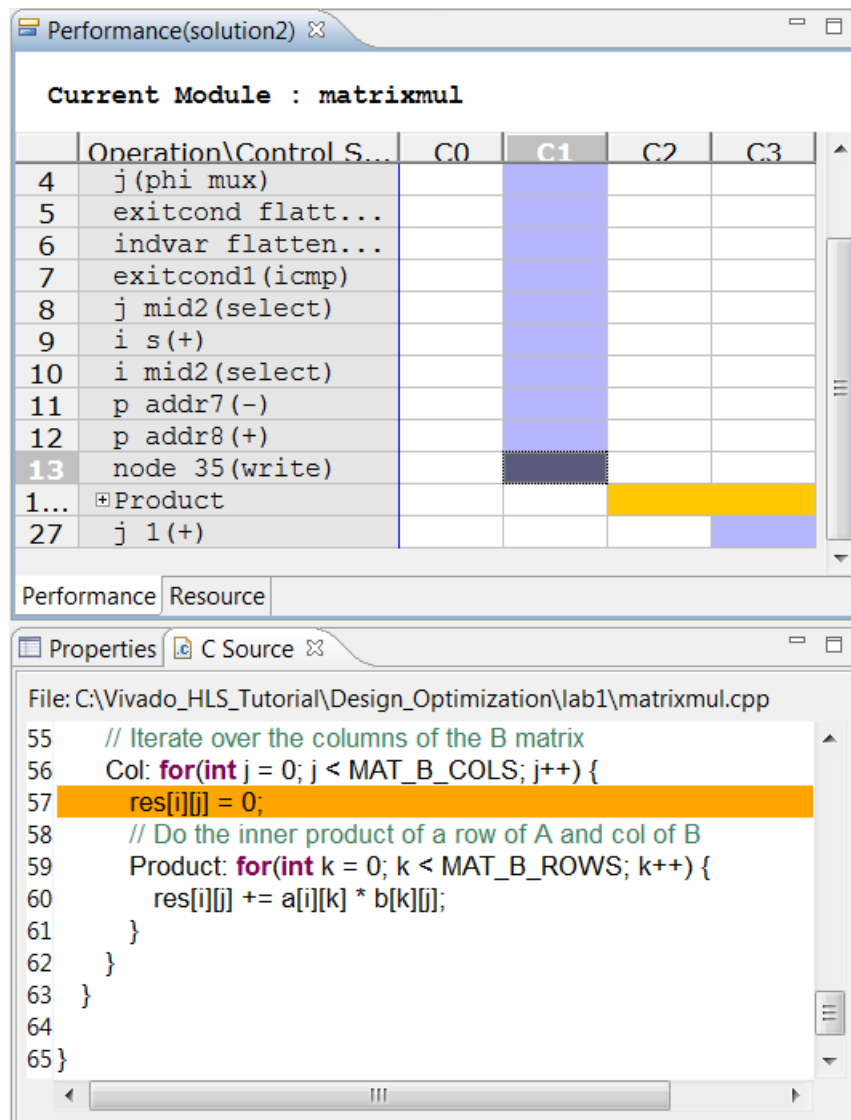

Figure 7-8: Matrixmul Initial Performance View
- Right-click and select **Goto Source** to see the view in Figure 7-8.